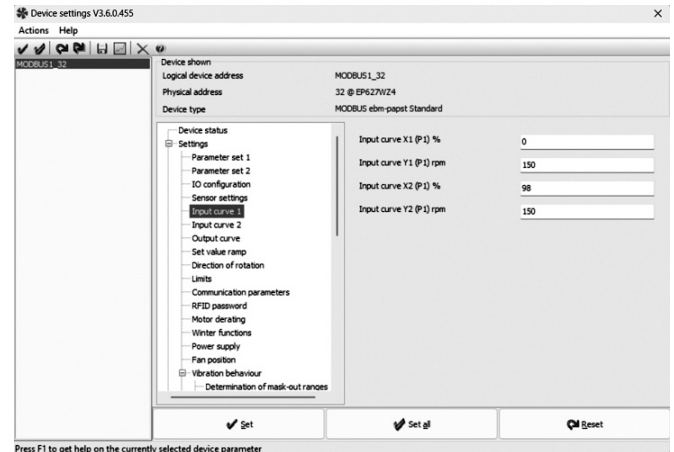

Fig. 20 — EC-Control Setting Input Curve 1 For 20% Speed Operation
- These parameters are for running the fan at 20% speed (see Fig. 20). Once the 10V signal from the dissipation board is lost, the program will switch from **Curve 2** to **Curve 1**.